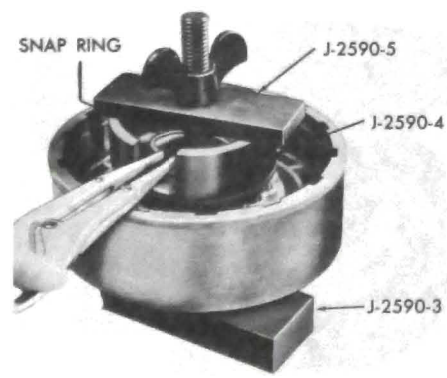

Figure 76-674
5. Using Tool J-2590, compress spring retainer and remove snap ring. See Figure 76-674.